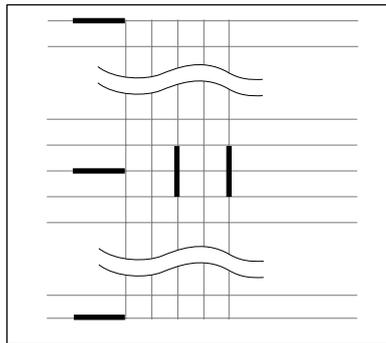

Fig. 2
- \* For the letter size, write vertical lines of 100 mm (two ruled lines) in the middle position 100 mm (two ruled lines) away from the vertical lines in the middle position. (See Figures 2.)